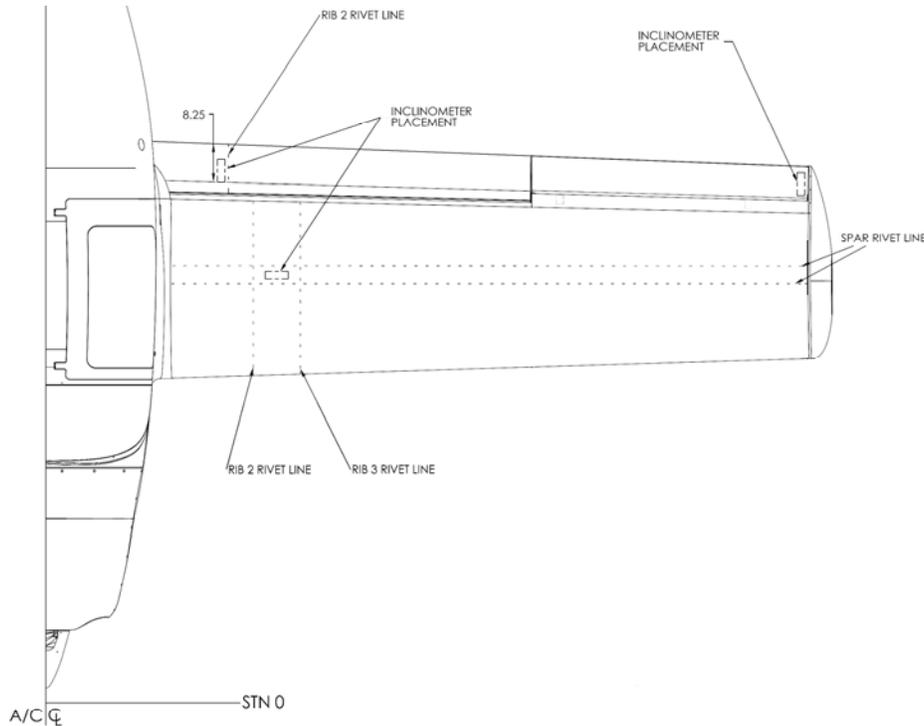

Figure 27-86 Location Aileron Inclinator true Port & Starboard
7. With the rigging block holding the yoke in the neutral position, place a SmartTool™ digital inclinometer positioned on the top aileron skin surface of the port wing as shown in Figure 27-86.